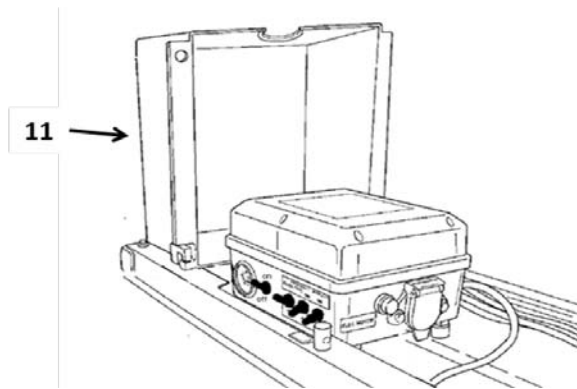

Figure 9 – Electric Control Box Cover
12. Install Electric Control Box Cover (11). (figure 9)